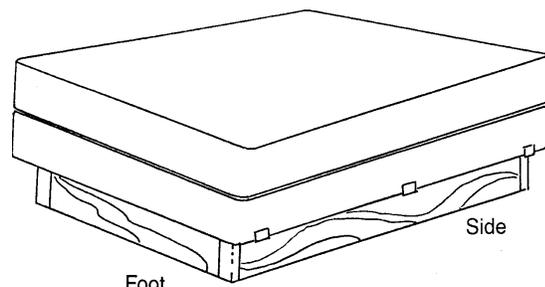

Fig. 7
5. *FINAL STEP*. Place the box spring or foundation on the bed base and adjust the brackets on the end of each angle so that they are as tight as possible against the box spring or foundation. (See figure 7.)